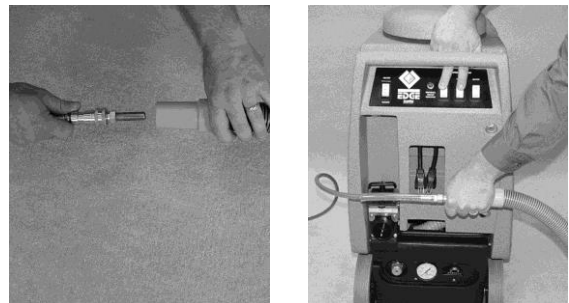

Fig. 11
1. After draining solution tank as described in steps one and two in the previous section (DRAINING SOLUTION TANK), place empty-out nozzle in end of vacuum hose and seal with hand (Figure 11).